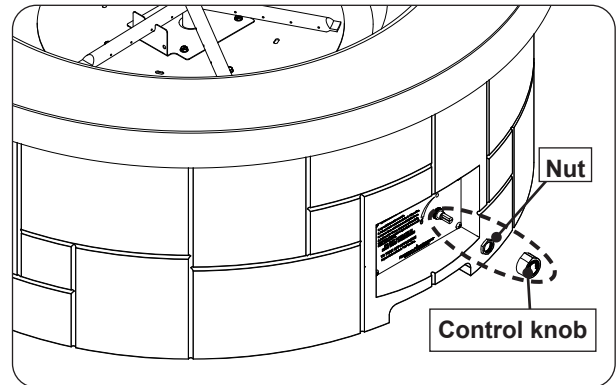

Fig. 28-2 Remove control knob and nut
2. Remove the control knob, and set aside. Use a 20mm socket to remove the nut attached to the valve. See Fig. 28-2.